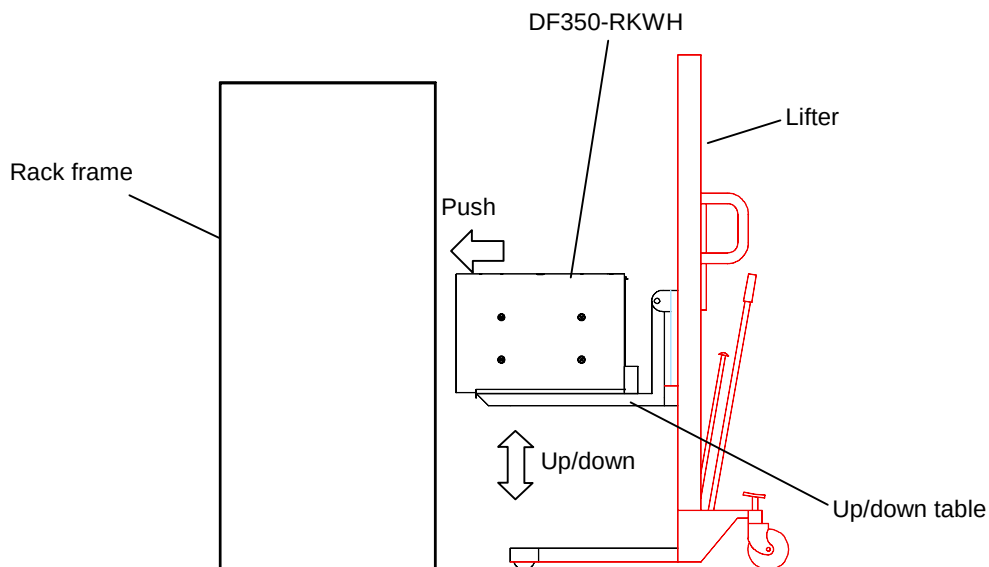

Figure 3.4.6 Install the DF350-RKWH into the Rack Frame
3.4.5 Install the subsystem into the rack (See Figure 3.4.6.)